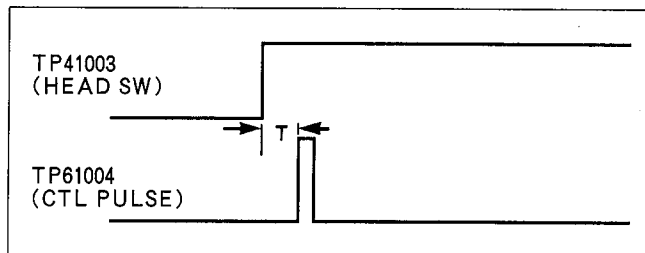

Figure E2
3. Adjust VR2003 so that the "T" becomes 0.4msec ± 0.1msec as shown in Figure E2.